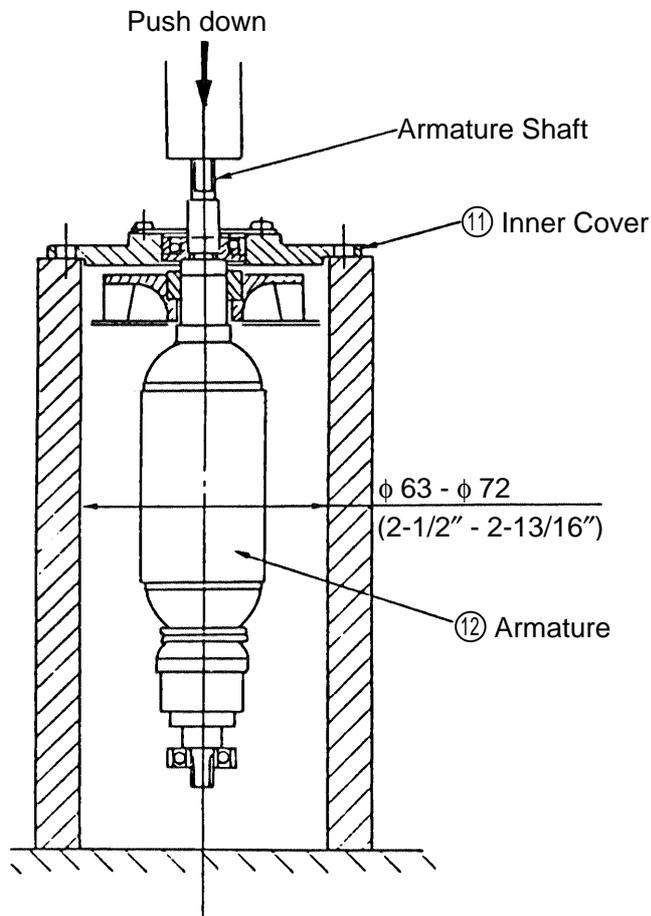

Fig. 3
- (1) Loosen the M5 x 20 Machine Screw ③② and remove the Wheel Guard (A) Ass'y ③⑤.
- (2) Remove the Brush Caps ⑤①, and take out the Carbon Brushes ⑤②.
- (3) Loosen the D5 x 25 Tapping Screws ①, and remove the Gear Cover ④. Separate the Inner Cover ①① from the Housing Ass'y ④④ with a screwdriver, and remove the Inner Cover ①① together with the Armature ①②.
- (4) Holding the Armature ①②, loosen the M6 Flange Nut ⑤ with a wrench, and remove the Pinion ⑥.
- (5) Support the Inner Cover ①① with a tubular jig (inner diameter $\phi 63 - \phi 72$ is recommended), and push down on the Armature shaft with a hand press to remove the Armature ①②. (see Fig. 3)